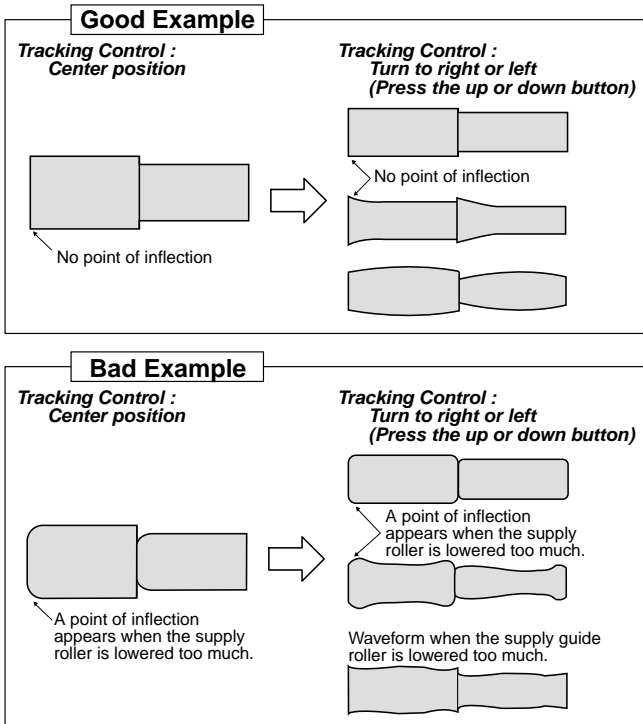

Fig. 3-4
- 5) Move the tracking control up or down, or left or right (\*2), and finely adjust the S and T guide roller height adjustment screws so that the PB FM signal output waveform changes as shown in the good example in Fig. 3-4.